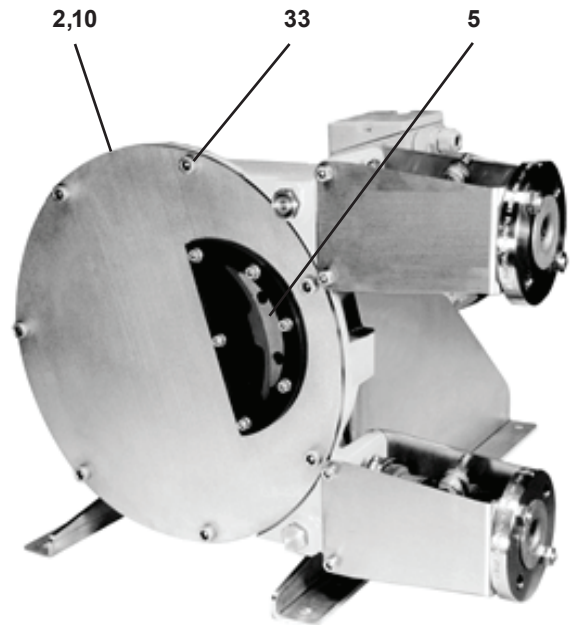

Figure 6
1. Unscrew cover bolts (33) by leaving two cover bolts partly fastened to the casing. Partially remove the cover (2) from the casing and fix a shackle in one of the cover's highest bolt holes (4014 is equipped with a lifting ring). Unfasten the remaining cover bolts and remove the cover. See Figure 6.
2. Check the state of the cover seal (10) and replace if necessary.
3. Check the state of wear of the pressing shoes (5) and replace them if necessary. See 6.4.